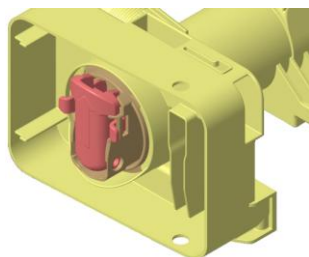

Fig. 1
- ✎ For machines manufactured with the new filter dial: open the hatch at the bottom of the front panel, and the filter dial will appear as shown in fig. 1.